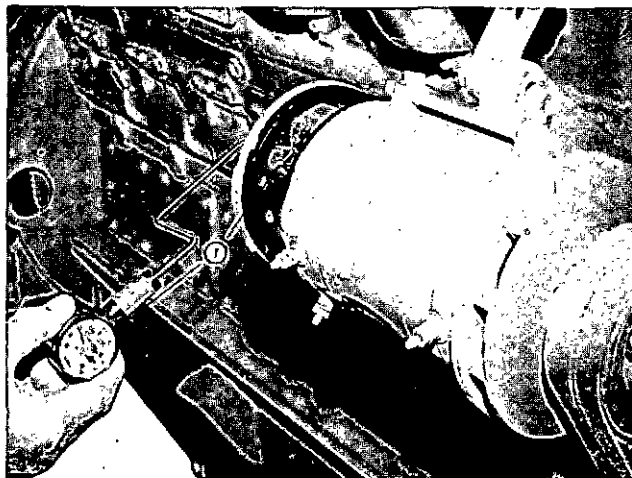

Fig. 5-43. Checking generator brush spring tension
2. Replace worn brushes. If brushes wear rapidly, check brush spring tension (1, Fig. 5-43) or high mica on the commutator. Check generator manufacturer's specifications for spring tension data. Check out-put and action of an ammeter indicator after brush replacement.